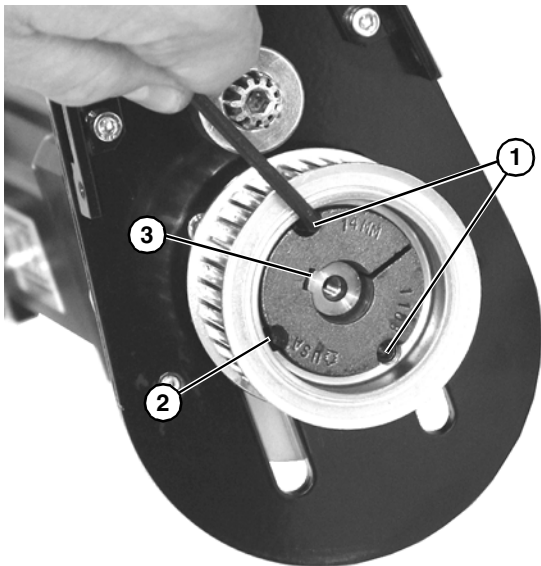

Figure 54
If drive pulley (**Figure 54, item 2**) is replaced, wrap timing belt around drive pulley and complete step 3.
3. To remove drive pulley, remove taper-lock screws (**Figure 54, item 1**). Insert one (1) of taper lock screws in remaining hole (**Figure 54, item 2**). Tighten screw until pulley is loose. Remove pulley and taper hub assembly.
4. Be certain key (**Figure 54, item 3**) is in place on shaft before installing drive pulley. Secure with two taper-lock screws (**Figure 54, item 1**).